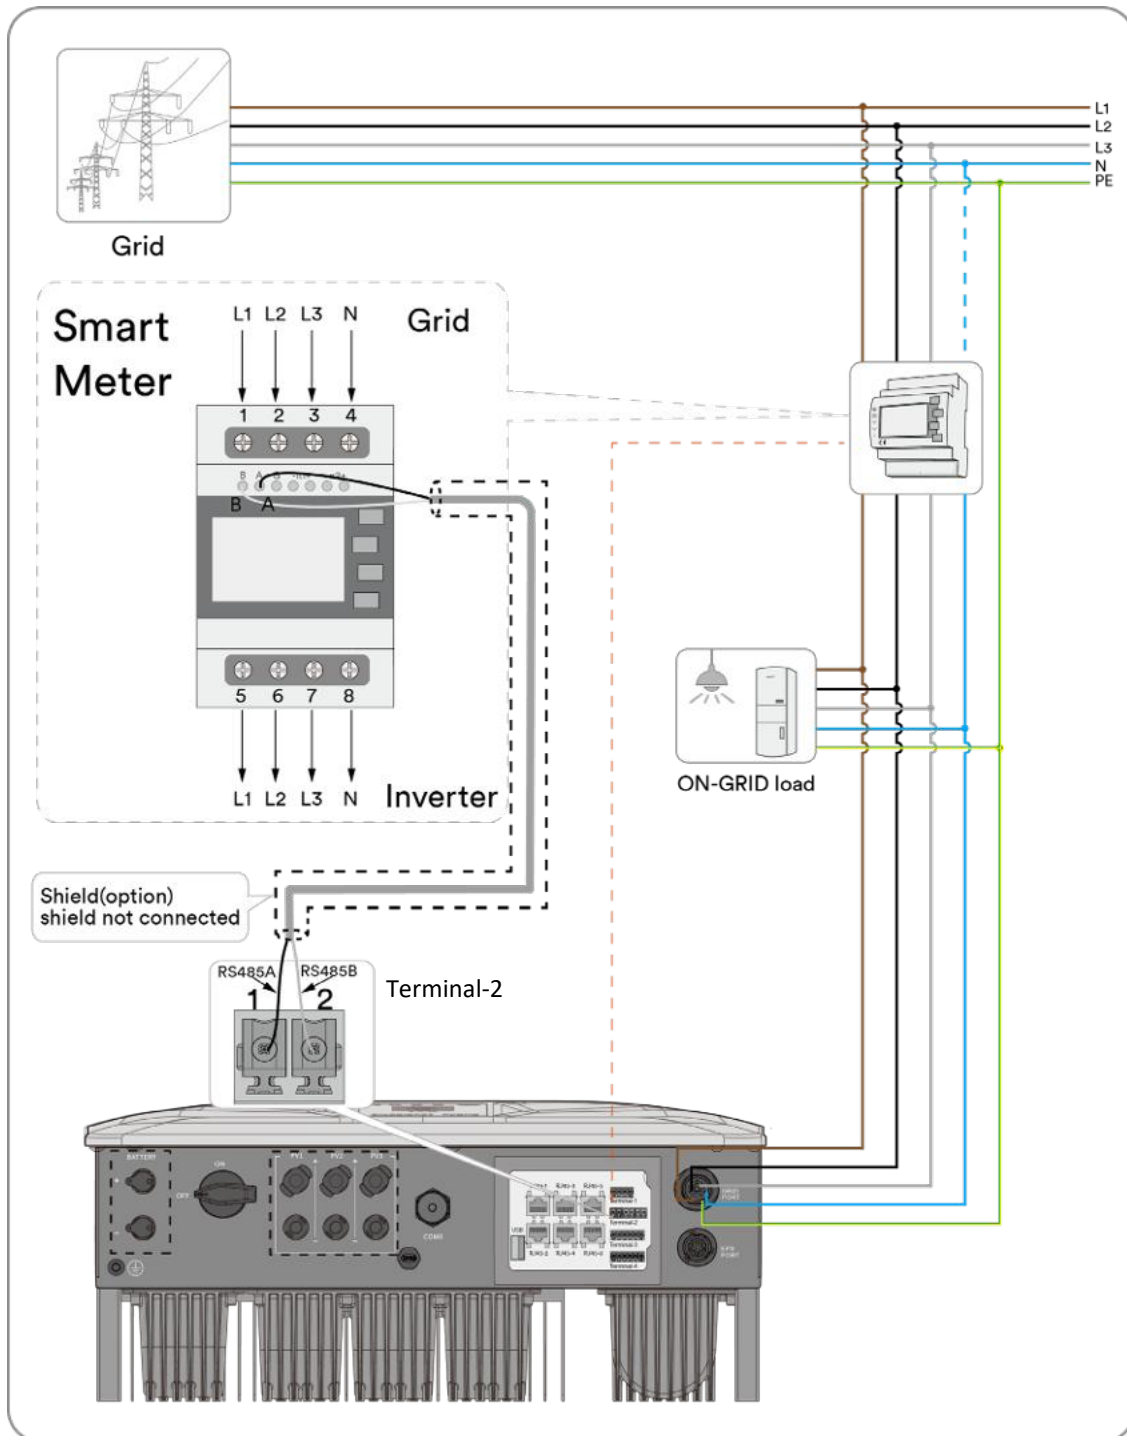

Fig. 56. RS485 cable connect to the Smart-Meter
1. Strip the insulation of the other side from the network cable and screw copper wire to the corresponding terminal. Screwdriver type: PH0, tightening torque: 0.7 Nm (See Fig. 56)